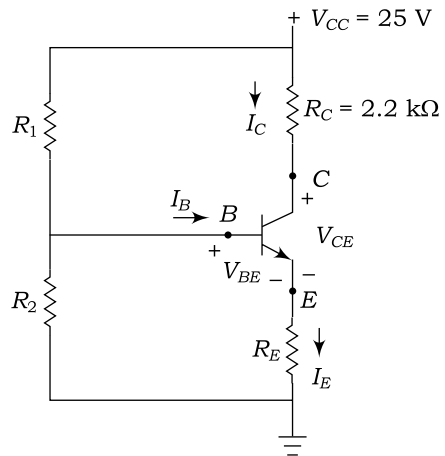

Fig. 2.124
51. Figure 2.124 shows the voltage-divider bias circuit with $\beta = 65$. Determine the value of R_1 , R_2 and R_E if the stability factor is 5, $V_{CE} = 10.0$ V and $I_C = 1.25$ mA.